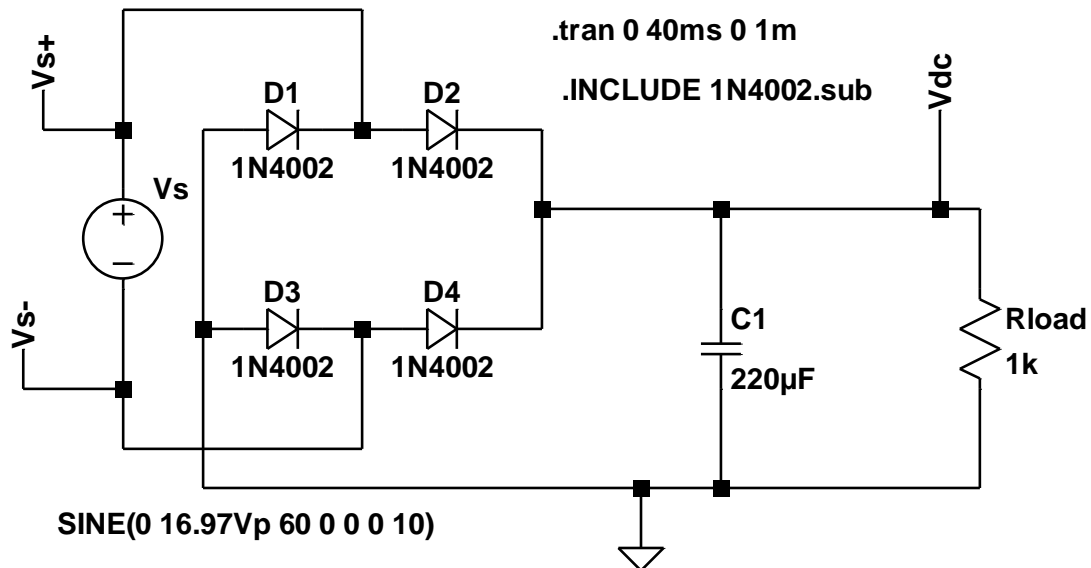

Figure 1
4.1. (35 point) Find an approximation for the dc output voltage level, V_{dc} with $V_s=12V_{RMS}$ you will need to convert to peak. For the circuit in Figure 1, find the ac **peak-to-peak** ripple voltage, $V_R = \frac{I_L T}{2C}$ for $C=220\mu F$, $R_{Load} = 1k\Omega$ and $R_{Load} = 560\Omega$. Note that $T = \frac{1}{60 \text{ Hz}}$ the United States, and assume the forward diode drop for the two diodes in the bridge is 1.2 V total. **Hint:** Assume $V_R = 0$ to find V_{dc} . Then use V_{dc} to find I_L .
4.3. (25 point Total) Simulate the circuit in Figure 1 in LTspice use V source at 60 Hz to replace the secondary of the transformer in Figure 1 (neglect the transformer entirely for the purpose of simulation). In the time domain, show the input to the bridge rectifier use **1N4002** diodes for the bridge (add the file **1N4002.SUB** sub circuit to your **LTspice**) the output of bridge with filter capacitor C removed and $R_L = 1\text{k}\Omega$, the output waveform (zoom in to show ripple voltage) with capacitor C installed and $R_L = 1\text{k}\Omega$, and the output waveform with capacitor C installed and $R_L = 560\ \Omega$. (10 point) Include your schematic with your (15 point) four plots with white background input to bridge ($V_{s+} - V_{s-}$), Vdc w/o C, Vdc with C $R_{load}=1\text{k}\Omega$, and Vdc with C $R_{load}=560\ \Omega$
5.1. Construct the circuit shown in Figure 1, using the bridge rectifier without the capacitor and with $R_L = 1k$. Use the VARIAC with the step-down transformer to control the input voltage to the bridge rectifier. With the transformer plugged into the VARIAC, adjust the VARIAC until the secondary voltage from the transformer equals $12 V_{rms}$. Use only one *scope probe* (**do not use BNC to alligator clip cables!**). *Be very careful* not to short the secondary terminals of the transformer! Record the DC voltage, peak V_{dc} , and the peak-to-peak ripple voltage, V_R . With the scope on DC coupling, set trigger to AC Line, capture the waveform before and after the bridge rectifier (you will need to move the ground connection) and print it out. (Scope time/record 20mS, Range 50V) **Two printouts.**
5.2. Remove power from the circuit. Insert the capacitor ($C=220\mu F$) as shown in Figure 1, being sure to observe the correct polarity. Energize the circuit. With the oscilloscope on (DC coupling), observe the load and (AC Coupling) ripple voltages and record them. Now, measure the load (DC Volts) and ripple voltage (AC volts) using the digital multimeter and record them. With the oscilloscope on (AC coupling, Range 5V, time/record 40mS), capture and print the voltage across the load. Compare your measured values with the values you calculated in your prelab. **One printout. Note** if the scope times out in Signal express set the trigger to AC line.